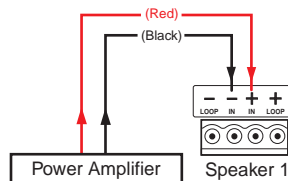

Figure 33. Wiring a Single Speaker
- **Wiring a Single Speaker:** Connect the wires to the captive screw connectors of the speaker as shown in figure 33. Be sure to tighten the screws.